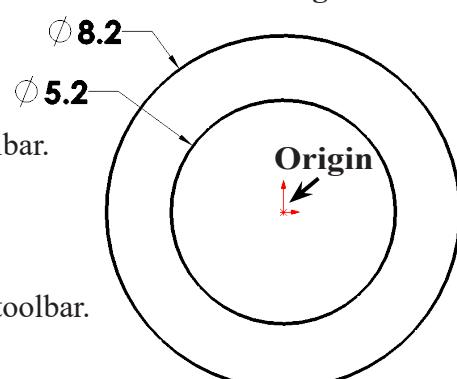

Fig. 2
Step 3. Click **Circle** (S) on the Sketch toolbar.
Step 4. Sketch two circles at the Origin , Fig. 2.
Step 5. Click **Smart Dimension** (S) on the Sketch toolbar.
Step 6. Dimension circle diameters **8.2** and **5.2**, Fig. 2.